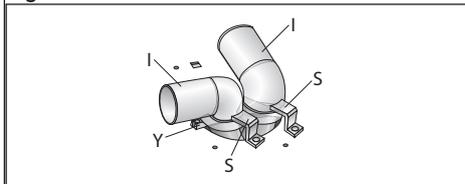

Fig. 16
- Insert reduction **F** inside stub pipe **C** using sliding agent to help insertion (Fig. 9) by securing it with the (supplied) screw **Y** to equipment sleeve (Fig. 16).
- Elbows **I** must be fastened to the sleeve with the relevant brackets **S** supplied with the splitter KIT (Fig. 16).